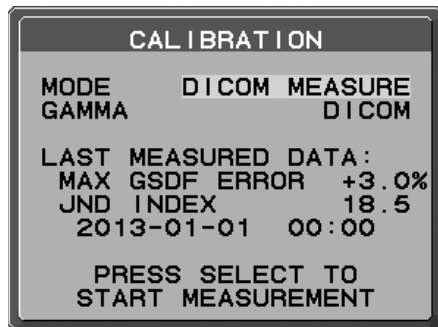

Figure D.1
2. Use “LEFT” or “RIGHT” to select DICOM MEASURE in the MODE selection (**Figure D.1**).